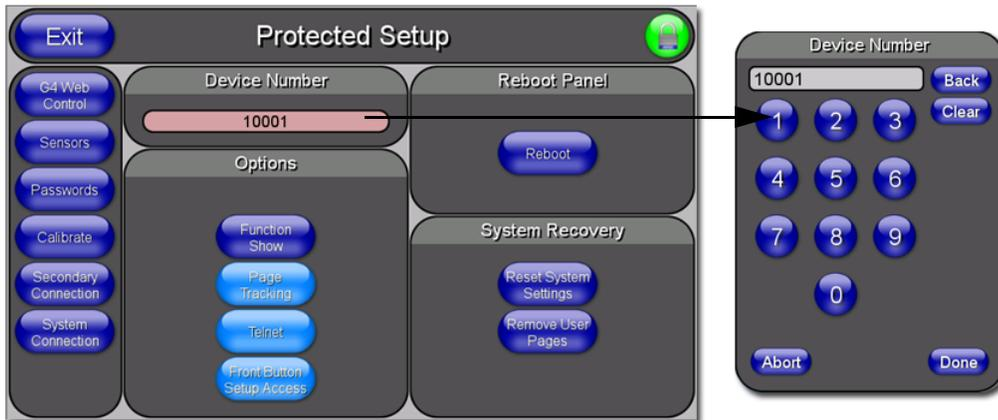

FIG. 48 Protected Setup page
4. Press the red **Device Number** field to open the Device Number keypad (FIG. 48).